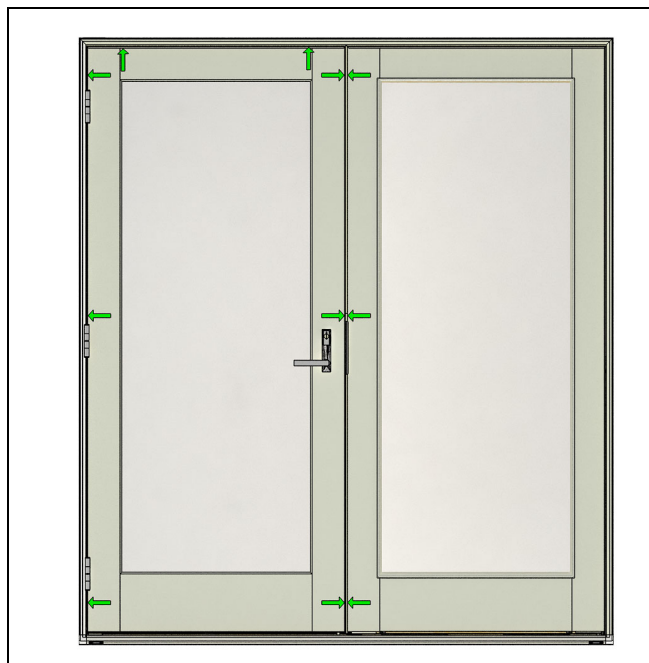

Figure 29
2. Close panel to ensure proper alignment with frame. See Figure 29.